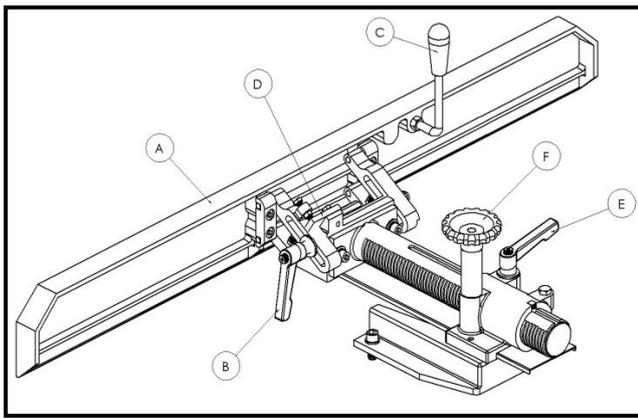

Fig. 12
To tilt the fence backward, loosen the lock screw (B) and tilt the fence (A), using the handle (C), Fig. 12. Use a machinist protractor or adjustable triangle to check the angle. A 45-degree tilt stop (D) is provided for quick placement of the fence at this angle.